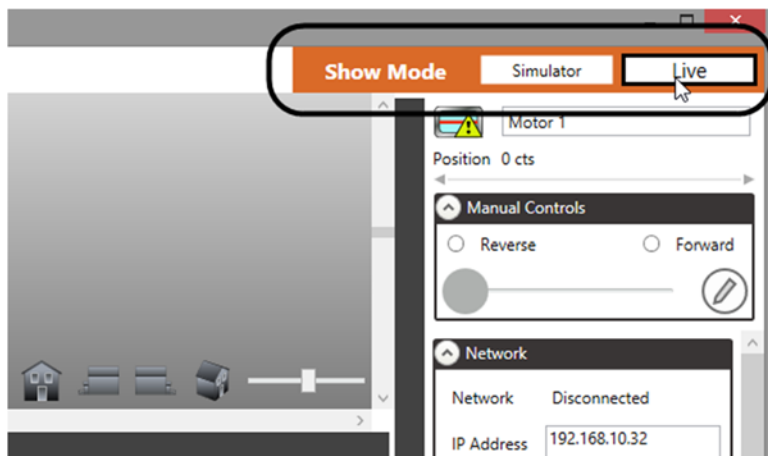

Figure 78
1. With Spikemark Open, select **Live** from the **Show Mode** switch (Figure 78).